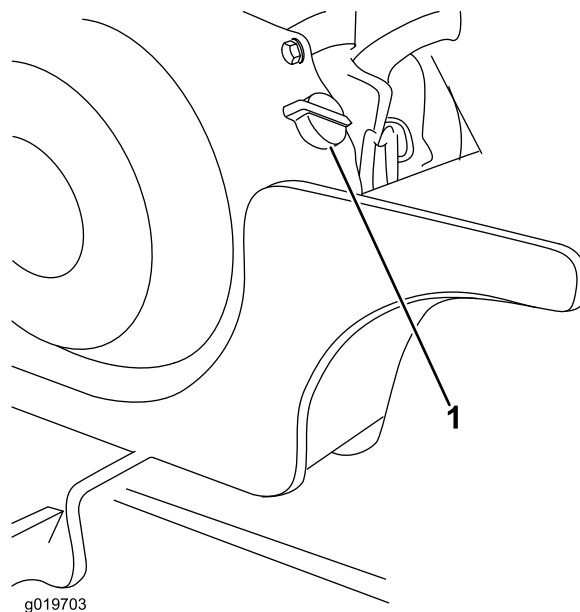

Figure 11
1. Move the engine switch to the On position (Figure 11).